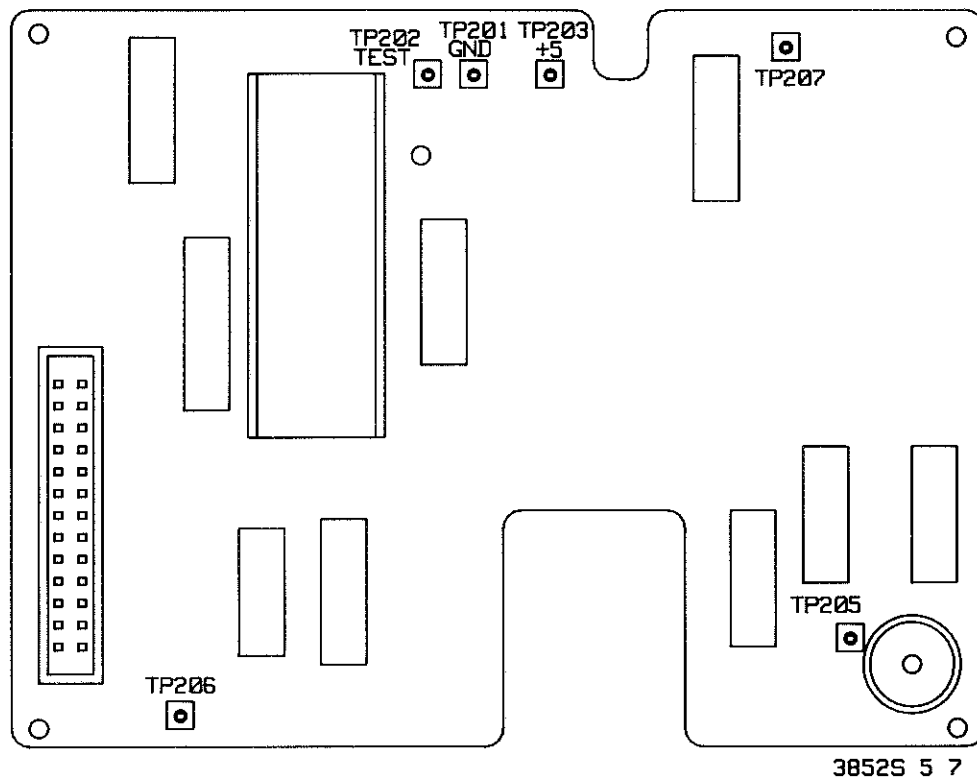

Figure 5-7 Front Panel Logic Circuit Board
The front panel logic scans the keyboard and controls both displays. The beeper is also located on the front panel logic. The front panel logic is tested in the self-test routines (see Sections 5-30, 5-31 and 5-32). An additional test can be initiated by use of a test point on the circuit board. Figure 5-7 shows the location of the test point and a ground test point. To use the test point:
2. Connect the TEST pin (TP202) to the ground pin (TP201). The test points are shown in Figure 5-7.